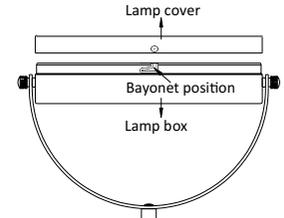

Fig. 3
2. Open the lamp cover perpendicular to the mirror side to allow the lamp cover to leave the bayonet position (Fig. 3).